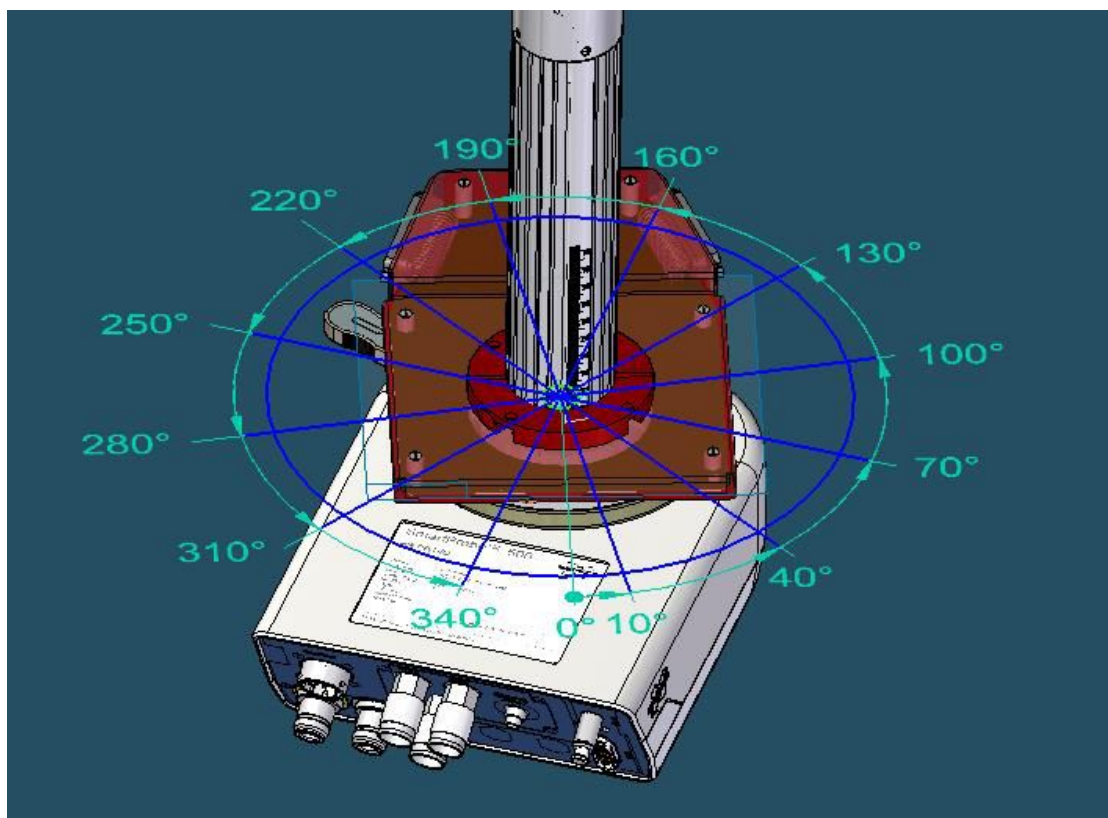

Figure 7.21: SB Shim System
TopShim needs to know the angle at which the HR-MAS iProbe is mounted with respect to the Standard bore (SB) shim system. There are theoretically twelve possible angles, the most common being 340° (see [Figure 7.21 \[39\]](#)).